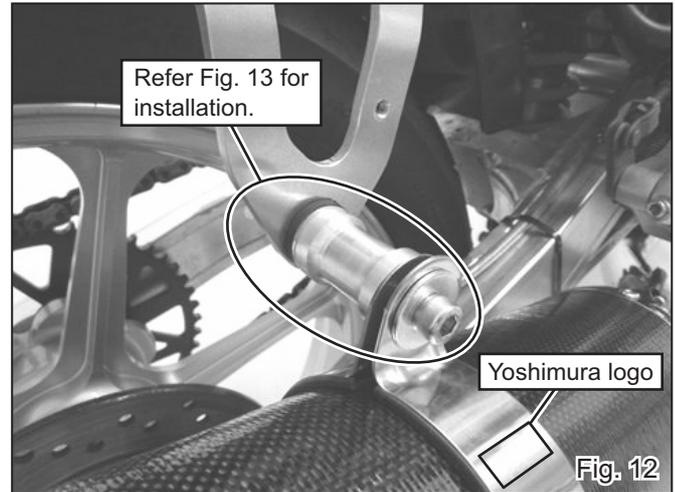

Fig. 12
- 13) Place Silencer Band Rubber inside Silencer Band, and slide the Silencer Band on Silencer Assy. Mount Silencer Band on Silencer Bracket using Cap Bolt M8x70, 3 of Washer M8x26, Spacer 8-26-40 and Flange Nut M8. (See Fig. 12 & 13) Tighten bolt by hand only at this stage.